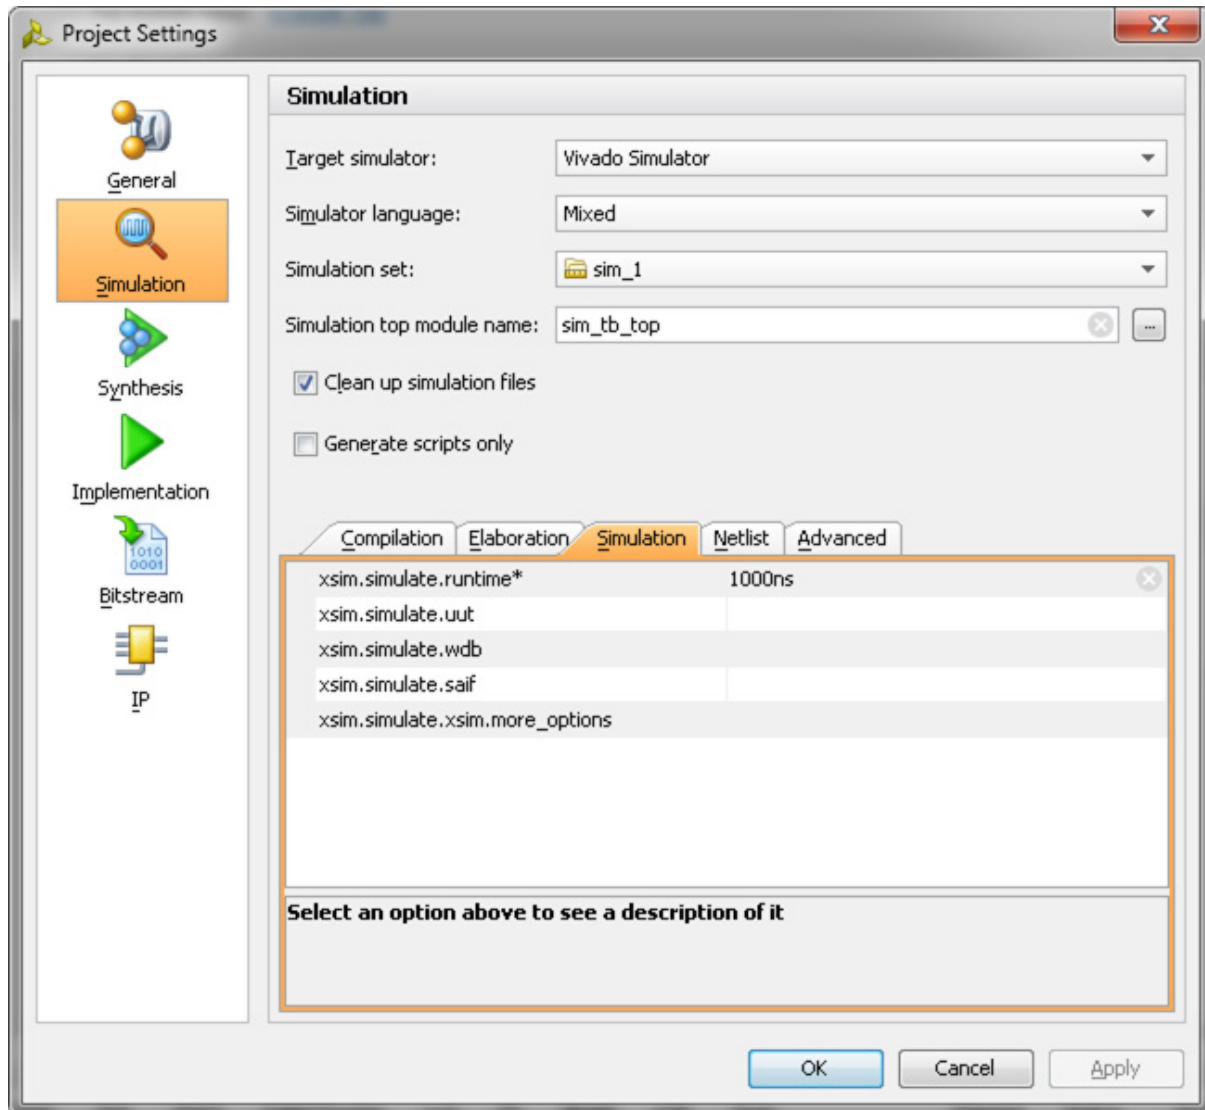

Figure 1-46: Simulation with Vivado Simulator
1. In **Open IP Example Design** Vivado project, under **Flow Navigator**, select **Simulation Settings** (Figure 1-46).
2. Under the **Simulation** tab as shown in Figure 1-46, set the `xsim.simulate.runtime` as 1 ms (there are simulation RTL directives which stop the simulation after certain period of time, which is far less than 1 ms). Apply the settings and select **OK**.
- b. Under the **Simulation** tab, set the `modelsim.simulate.runtime` to 1 ms (there are simulation RTL directives which stop the simulation after certain period of time, which is far less than 1 ms), set `modelsim.simulate.vsim.more_options` to **-novopt** as shown in Figure 1-46.